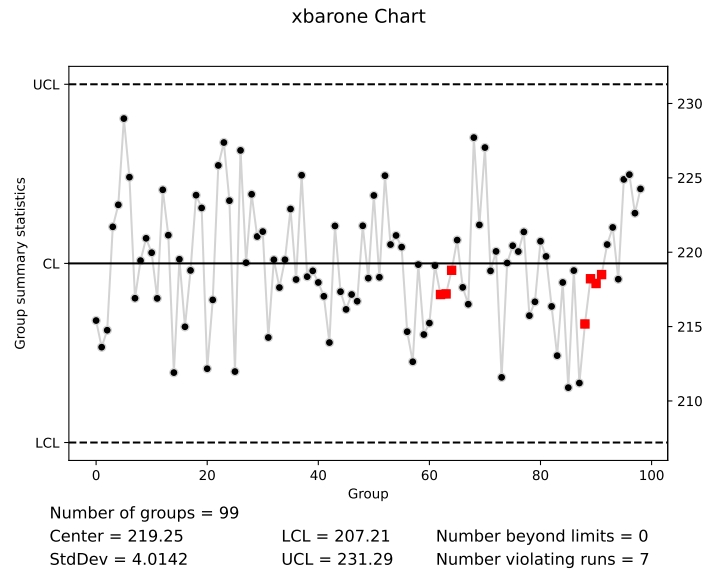

Fig. 2.1: X-barone chart of OELECT.csv dataset
**Solution 2.1** The following Python code creates the chart shown in Fig. 2.1.